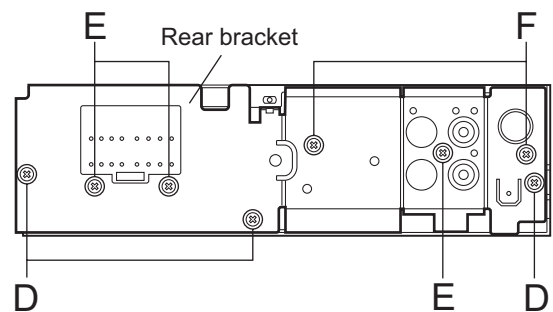

Fig.7
2.1.5 Removing the rear bracket (See Fig.7)